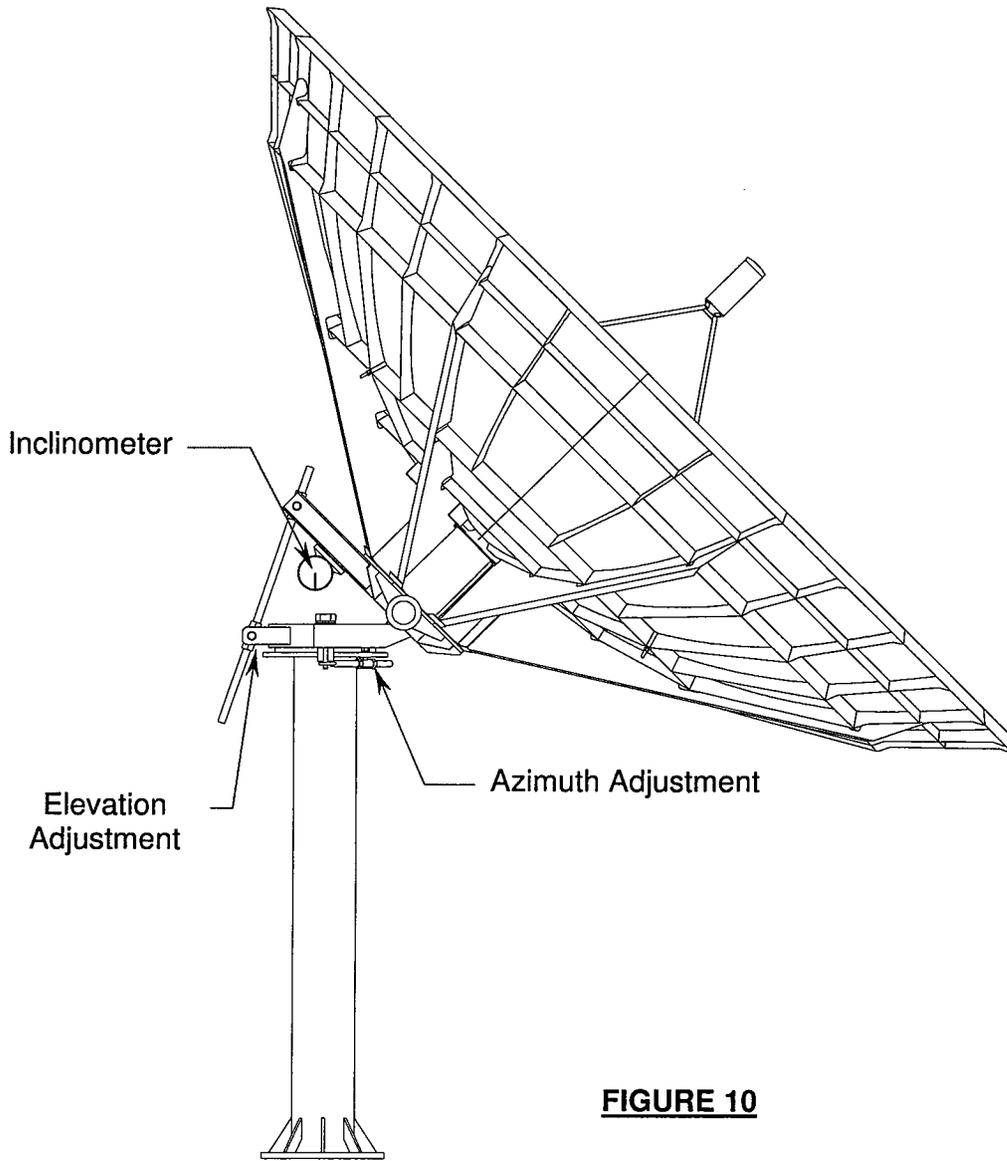

FIGURE 10
1. Set the elevation angle by rotating the 1-1/4" nuts on the elevation adjustment rod. Measure the angle by placing an inclinometer on the reflector hub. See Fig. 10.
2. The correct elevation angle is set, rotate the antenna in azimuth by removing the 1" hardware (4 places) in the positioner plate. See Fig 10: